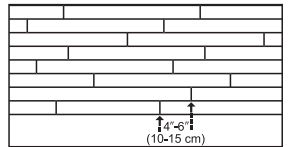

Figure 3
• **Tramex Concrete Moisture Encounter Meter** (Figure 2): Moisture readings should not exceed 4.5 on the upper scale. (Figure 3 shows an unacceptable reading of over 4.5) Concrete Moisture Meters give qualitative reading results-not quantitative ones. These results are a quick way to determine if further testing is required.
- Be attentive to staggering the ends of the boards at least 4"-6" (10-15 cm) when possible, in adjacent rows (Figure 3). This will help ensure a more favorable overall appearance of the floor.
- End-joints of adjacent rows should be staggered a minimum of 4'-6" (10-15 cm) when possible, to ensure a more favorable overall appearance (Figure 3).
- Check for a tight fit between all edges and ends of each plank. End-joints of adjacent rows should be staggered 4'-6" (10-15 cm) when possible, to ensure a more favorable overall appearance (Figure 3).